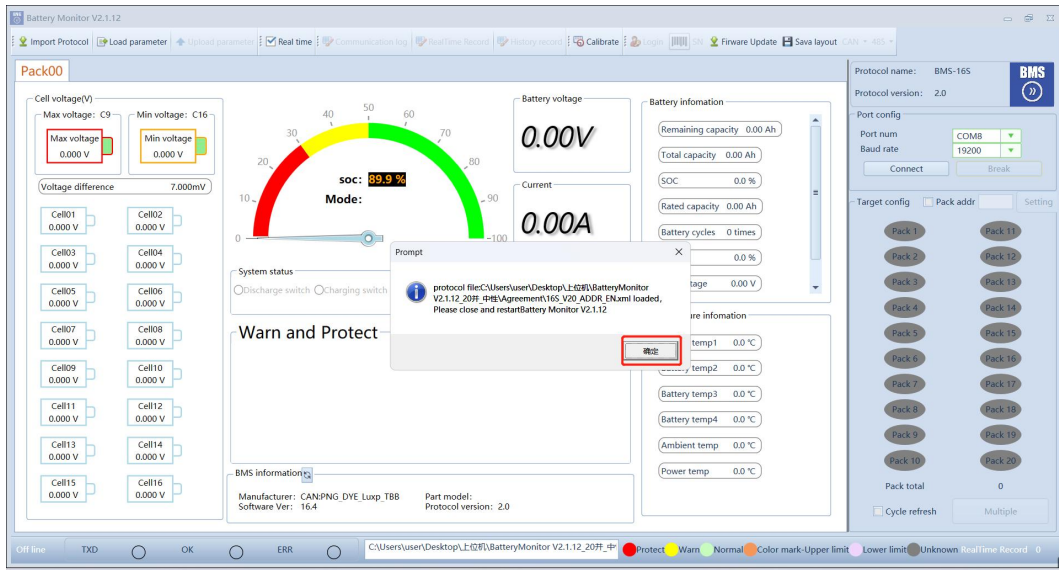

Figure 3-3
3) Click to determine, Figure 3-3